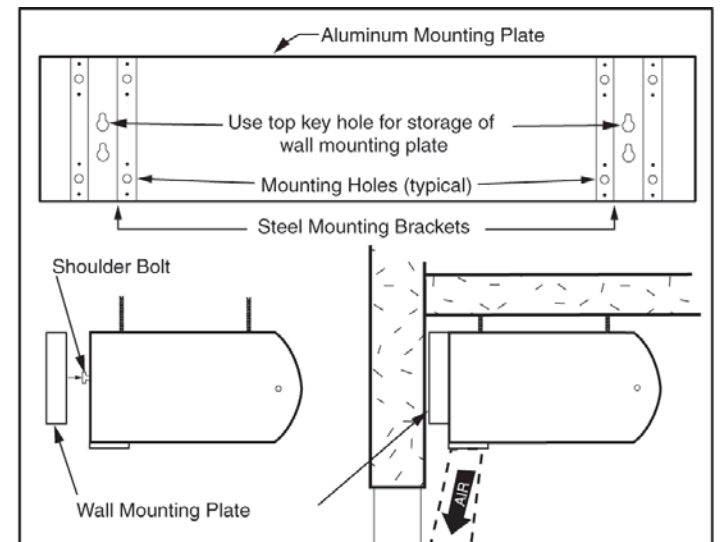

FIGURE 5 - Wall Mounting Plate Storage
- A. When the unit is top mounted, the wall mounting plate is designed to store on the back of unit for future use. See Figure 5